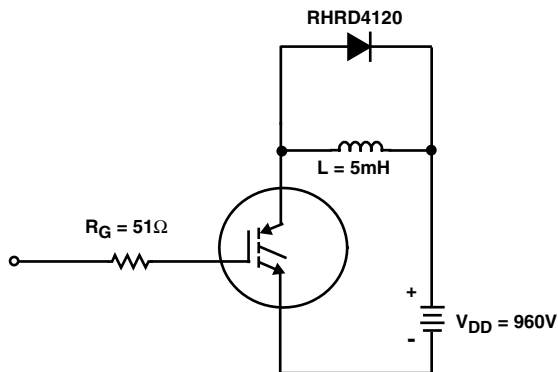

FIGURE 18. INDUCTIVE SWITCHING TEST CIRCUIT
| Current Turn-On Delay Time          | $t_{d(ON)I}$    | IGBT and Diode at $T_J = 25^\circ\text{C}$$I_{CE} = 2.6\text{A}$$V_{CE} = 960\text{V}$$V_{GE} = 15\text{V}$$R_G = 51\Omega$$L = 5\text{mH}$Test Circuit (Figure 18)              | -   | 25  | 30   | ns                 |
| Current Turn-On Delay Time          | $t_{d(ON)I}$    | IGBT and Diode at $T_J = 150^\circ\text{C}$ ,$I_{CE} = 2.6\text{A}$ ,$V_{CE} = 960\text{V}$ ,$V_{GE} = 15\text{V}$ ,$R_G = 51\Omega$ ,$L = 5\text{mH}$ ,Test Circuit (Figure 18) | -   | 21  | 25   | ns                 |
- Values for two Turn-On loss conditions are shown for the convenience of the circuit designer.  $E_{ON1}$  is the turn-on loss of the IGBT only.  $E_{ON2}$  is the turn-on loss when a typical diode is used in the test circuit and the diode is at the same  $T_J$  as the IGBT. The diode type is specified in Figure 18.